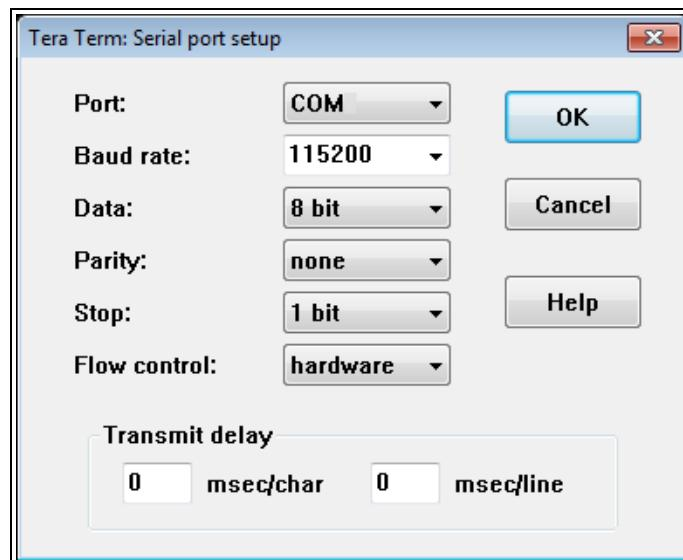

Figure 19: Tera Term: Serial Port Setup dialog box with default settings
8. **Important:** Verify, and change if required, the Tera Term serial port settings (except the **Port** setting) of the connected Z9-T-DEVKIT so the settings are the same as the defaults shown in Figure 19.